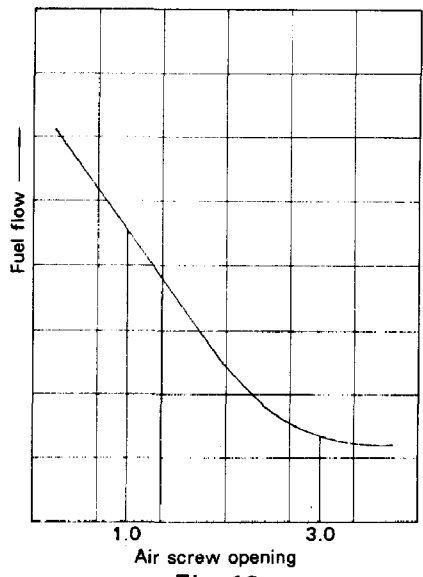

Fig. 16
(1) If there is a certain range in the opening of the air screw where the fast engine revolution can be obtained (for instance, the number of revolutions does not change in the range of 1-1/2 to 2.0 turn), it would be better for acceleration to select 1-1/2 turn.
(2) To determine the "fully closed" position of the air screw, turn the air screw slightly. Excessive tightening of the air screw would damage the seat. The position where the air screw comes to a stop should be considered the "fully closed" position. The maximum number of turns in the opening of the air screw must be limited to 3.0. If the air screw is opened over 3.0 turn, the spring will not work and the air screw can come off during operation of the vehicle. Fig. 16 shows the fuel flow curve in relation to the opening of the air screw.